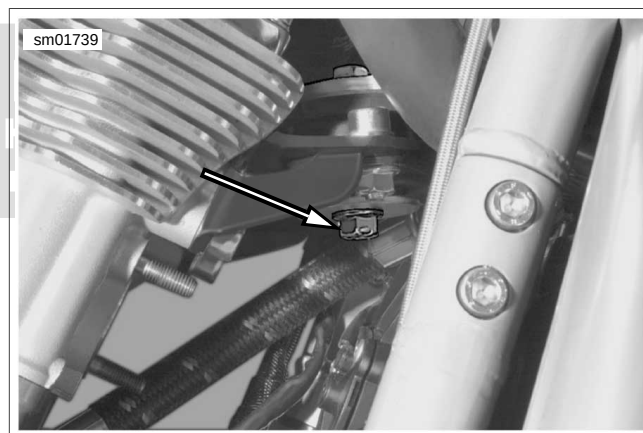

Figure 1-47. Front Engine Mount Bolt
21. See Figure 1-47. Loosen front engine mount bolt and retract jack to allow the engine to drop down approximately 13 mm (1/2 in).